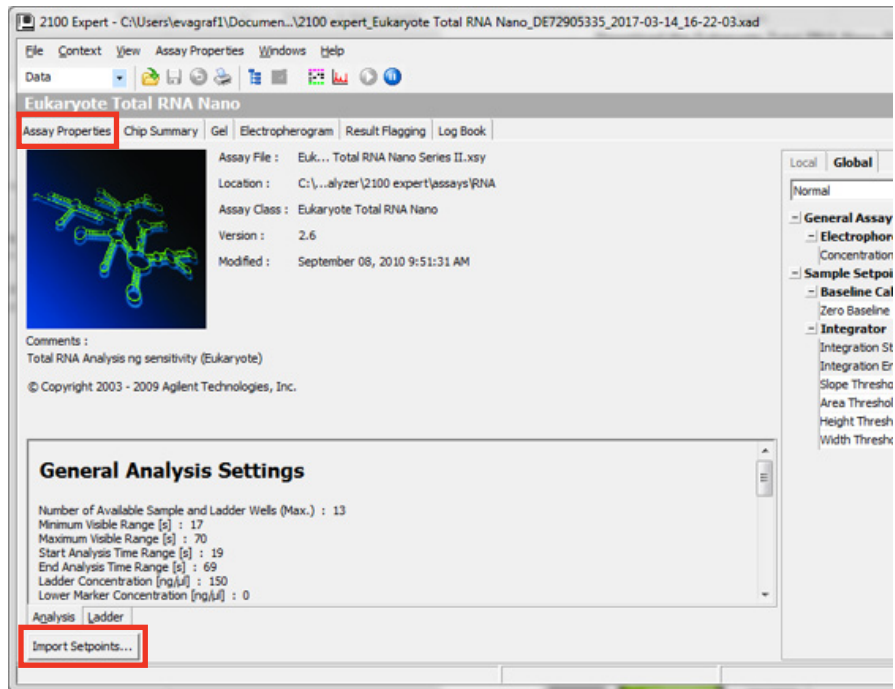

Figure 3. Importing the DV200 RNA assay into existing data files.
3. Click **Import Setpoints** and select the corresponding .xsy file (Figure 3).